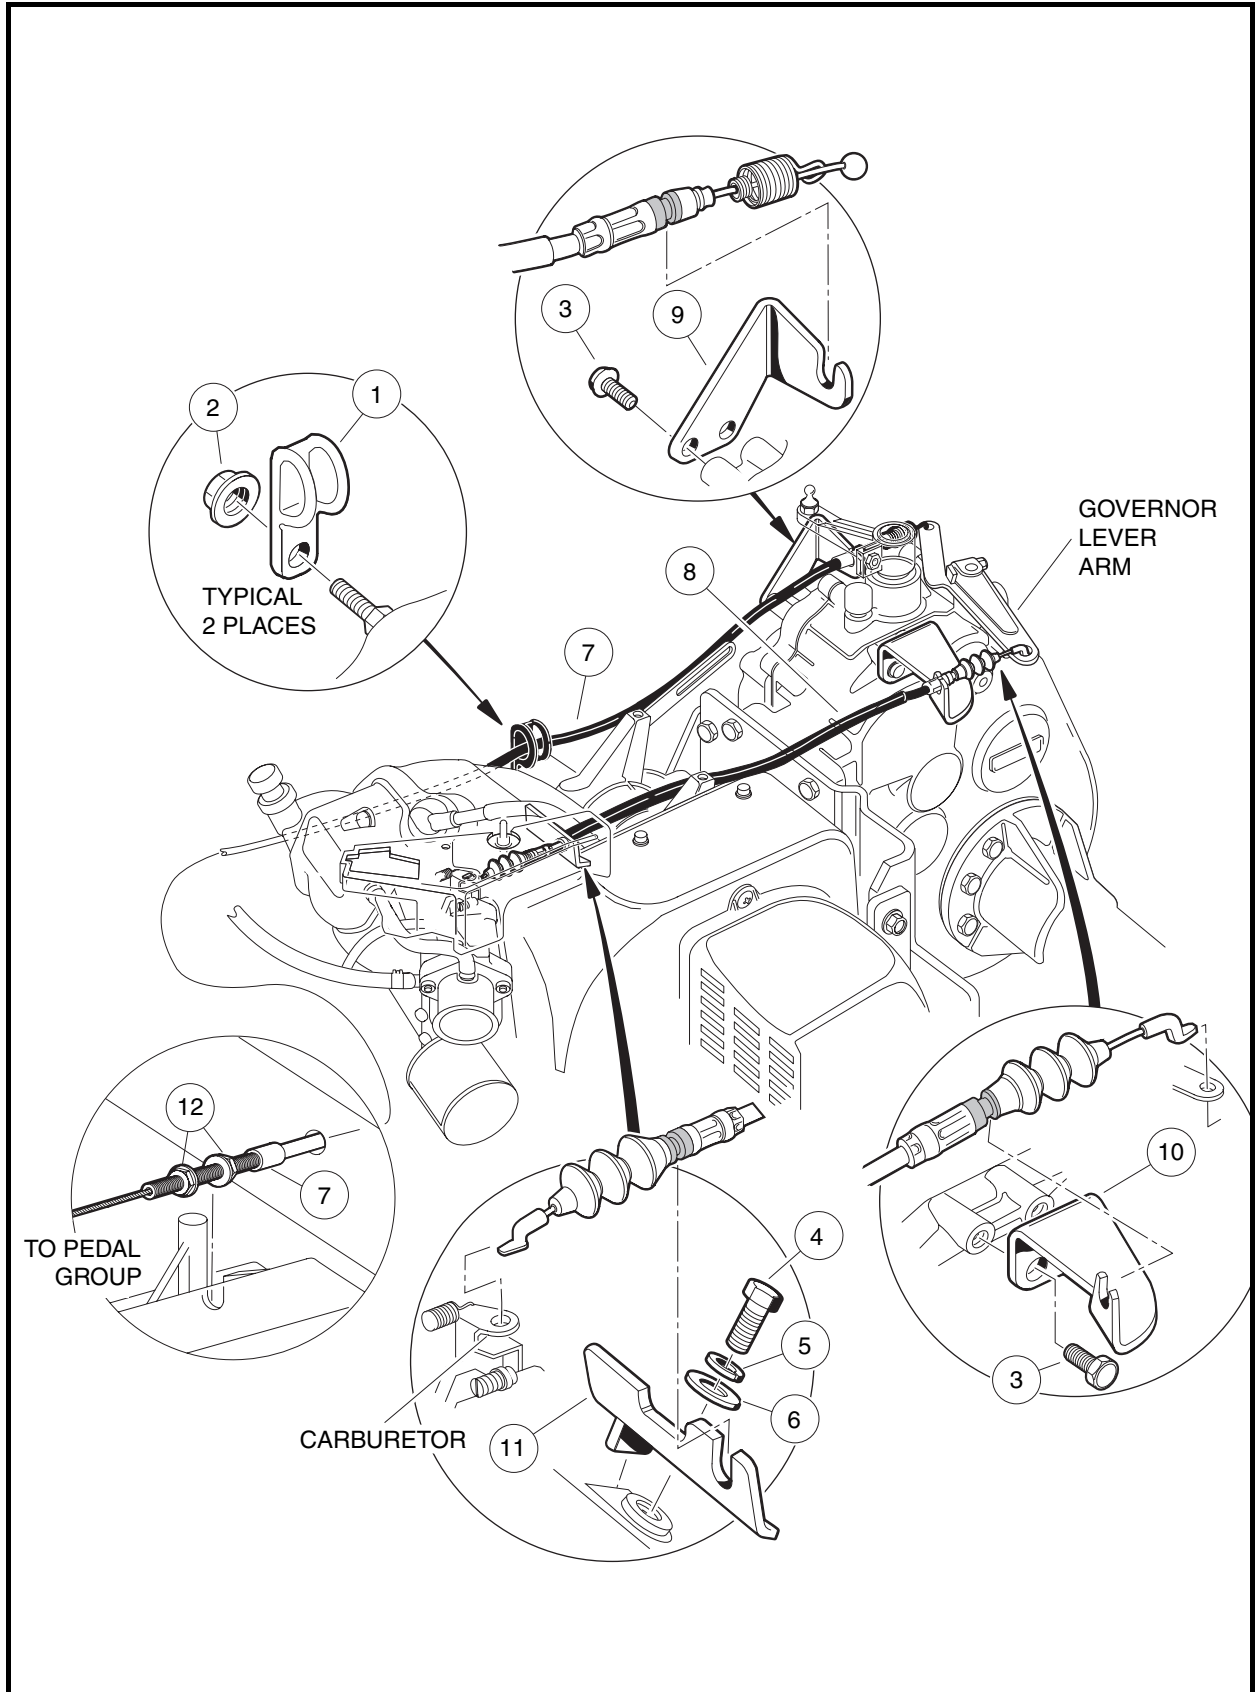

Figure 14-3 Governor and Accelerator Cables
4. Release the governor cable (8) from brackets (10 and 11) (**Figure 14-3, Page 14-7**).
5. Remove the ends of cable (8) from the governor lever arm and the carburetor and remove the cable from the vehicle.
1. Insert the ends of cable (8) into the respective holes on the carburetor and the governor lever arm (**Figure 14-3, Page 14-7**).
2. Press on the cable (8) to snap it in place in brackets (10 and 11).
3. Loosen the two lock nuts (12) that secure the accelerator cable to the vehicle (**Figure 14-3, Page 14-7**).
4. Release the accelerator cable housing from bracket (9).
2. Connect the end of the accelerator cable (7) to the governor lever arm (**Figure 14-3, Page 14-7**).
3. Press on the cable (7) to snap it in place in bracket (9).
4. Adjust two lock nuts (12) to remove excess slack in the accelerator cable. Finger-tighten the two lock nuts.
6. To **reduce** RPM, adjust the two lock nuts (12) to move the cable housing toward the rear of the vehicle until the specified RPM is reached (**Figure 14-3, Page 14-7**). To **increase** RPM, adjust the two lock nuts (12) to move the cable housing forward until the specified RPM is reached.